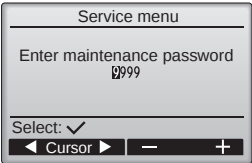

Fig. 7-2
- ① Select "Service" from the Main menu, and press the  button.
② When the Service menu is selected, a window will appear asking for the password. (Fig. 7-2)